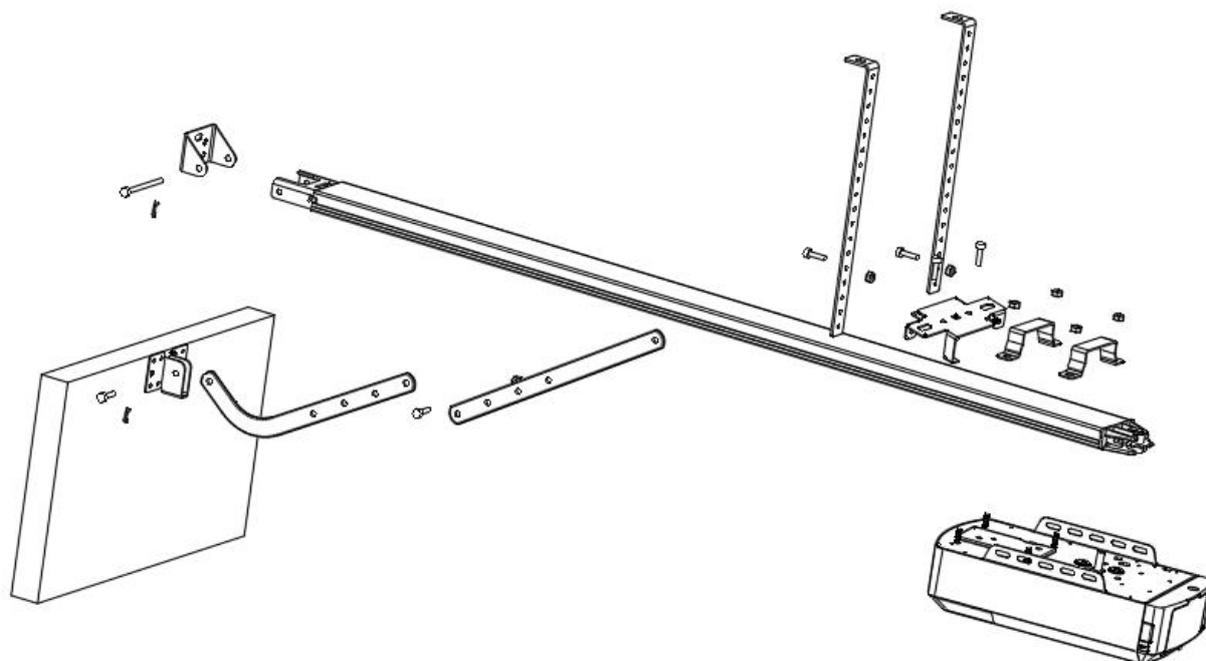
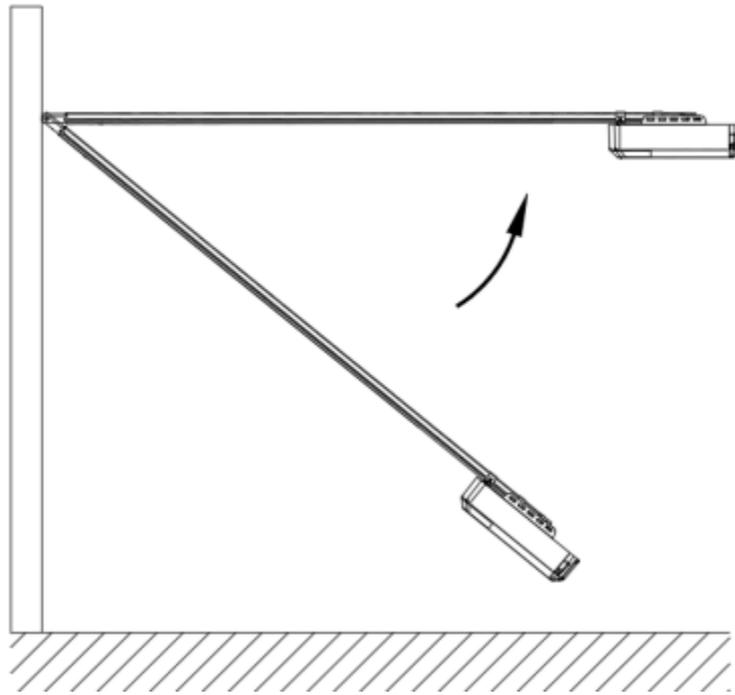

figure 3
Figure 4
ÉTAPE 1 (Fig.3)
ÉTAPE 2 (Fig.3)
ÉTAPE 3 (Fig.3, Fig.4)
ÉTAPE 4 (Fig.3, Fig.5)